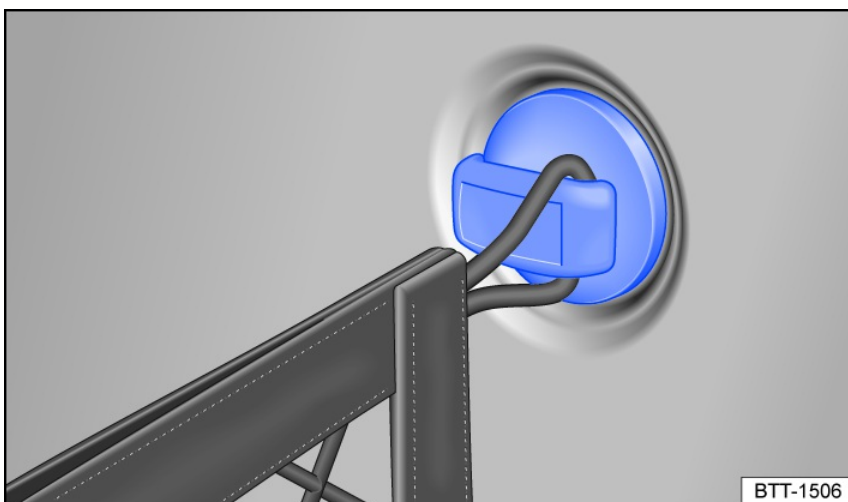

Fig. 165 In the luggage compartment: Luggage net hooks.
2. Secure the loops on the luggage net to the side hooks *fig. 165*, ⇒ ⚠.